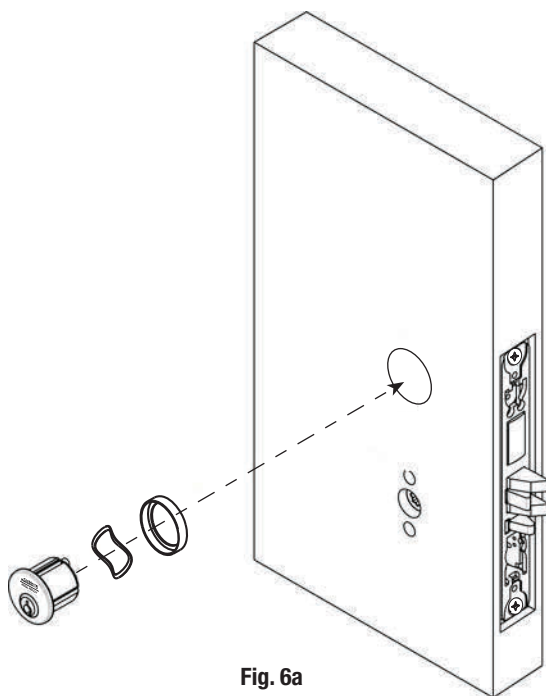

Fig. 6a
- a. Thread cylinder into lock body (Fig. 6a).